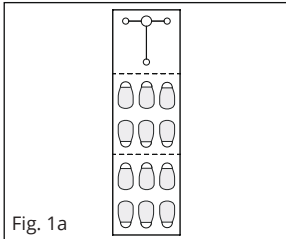

Fig. 1a
1. Remove the adhesive squares from the backing. (see **Fig. 1a**)